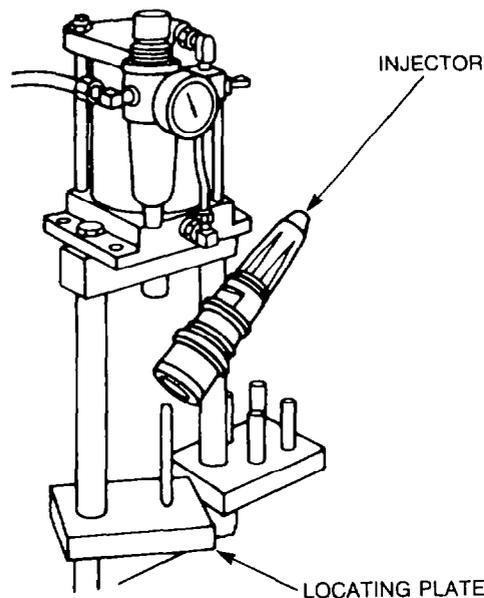

Figure 104 — Injector Assembly Stand
- j. Install the injector onto the injector assembly stand ST-1298 locating plate (see Fig. 104).